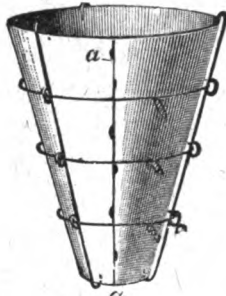

FIG. 1
**Centrifugal Pump.**—Herewith are dimensioned drawings of a centrifugal pump designed to lift 150 gal. per minute at 20 ft. head. To enable the volute to be correctly formed the case is in two halves. To avoid end thrust and to ensure an even balance of the disc, the inflow takes place on each side, each inlet having a diameter of 3 in. Fig. 1 is a side elevation and Fig. 2 one half of the case showing the depth of the volute and disc with angle of vanes. The volute, to obtain a good flow, must increase evenly to its discharge. The discharge pipe should increase in area to reduce the velocity considerably. The flange of the casing is 1 in. wide, drilled to take  $\frac{1}{2}$ -in.
of the pipe to be joined by its means. The easiest way to obtain a pattern of this plate is by wrapping a piece of smooth paper round the place on which the mount is to go, and very carefully cutting all the surplus away with a pair of scissors until one thickness of the paper is all round the pipe. If this is done carefully and due attention is paid to the straightness of the soldering seam and of the ends, the silver can be cut to fit exactly. The plate must be flattened, and then turned up into a tube quite free from bruises or kinks. For this is required a "triblet," which is a tapering piece of smooth round iron or steel; a bending block is also required. A mallet also may be necessary if the silver is thick; thin metal will come up by the pressure of the hand almost, and may be worked with a pair of half-round pliers in place of the block and mallet. With a knife or a scraper made from a three-square file, make the edges to be soldered together quite level and true with each other; see that no burr from the file is left on the metal when tying with wire. Should the mount be long, it is desirable to file small nicks in the edges that form the seam *a a* (Fig. 1), so that the solder may hold better; the seam will not be so likely then to open during the subsequent operations. When fitted, the tube is tied with iron binding wire so that the edges remain in the proper position whilst soldering. Thin wire should be used, as thick wire on cooling and shrinking may bruise the work. The tying of the wire is not a difficult job, but with a very tapering mount means have to be taken to prevent the binding wire slipping down (see Fig. 1). In soldering, which is the next process, brush the flux on the edges to be united, which previously should have been scraped clean. The flux is borax rubbed up in water. Lay some pallions (small pieces) of silver solder along the seam, and with a gentle heat from the blowpipe flame evaporate all moisture. Then, if the solder has not been shifted, apply the full heat. When cold, pickle in a mixture of 1 part of sulphuric acid and 40 parts of water, and file off any pieces of unsoldered solder. The mount now is sure to be more or less out of shape, so it has to